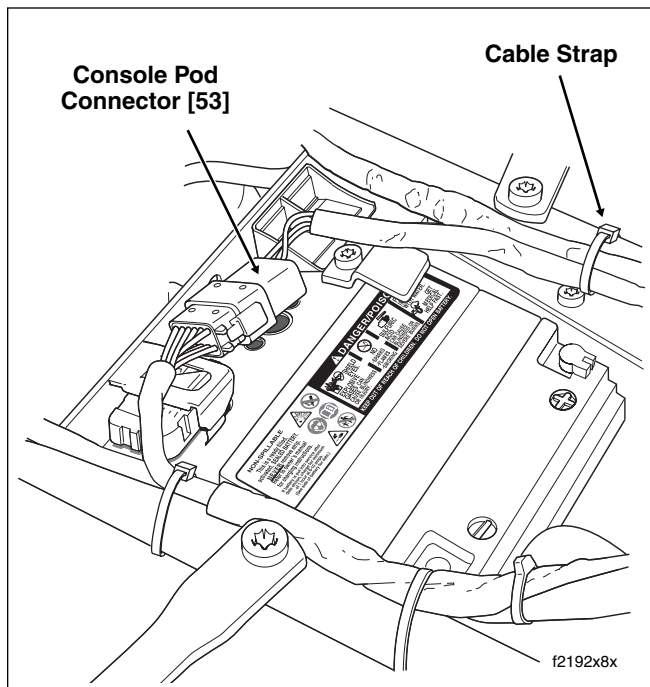

Figure 8-143. Disconnect Console Pod Connector
10. Release console pod connector [53], 12-place Deutsch, from attachment clip anchored in hole of frame cross-member (at rear of battery box). See Figure 8-143. Disconnect pin and socket halves.
5. Install **new** cable straps to secure console pod conduit and audio harness to left frame tube at front and rear of saddlebag rail. Cut any excess cable strap material. See Figure 8-143.